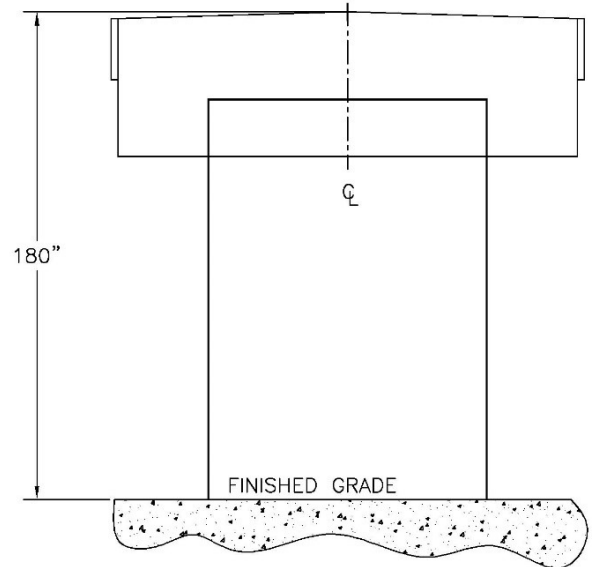

FIG. 1
- ii. Mark centerline on lintel above door (Fig. 1).